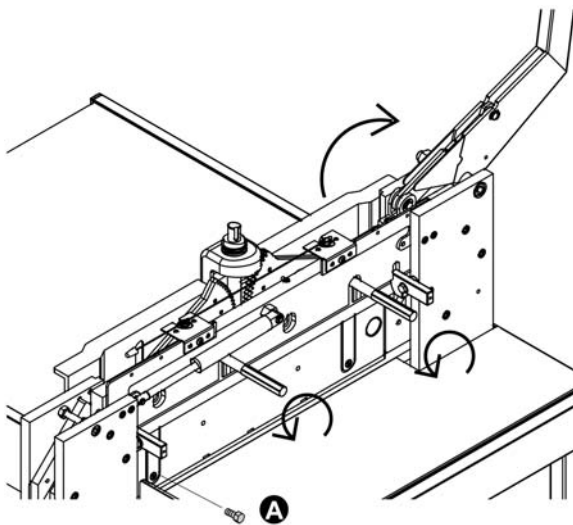

Fig. 3
- (7) Remove the blade screws (B) and (D) and replace them with the two blade holders from the tool box. Tighten them securely.
- (8) Take out blade screws (C) and (E).
- (9) Return the blade lever to its starting position and lock it.
- (10) Take out the blade screw (A). (Fig. 3)